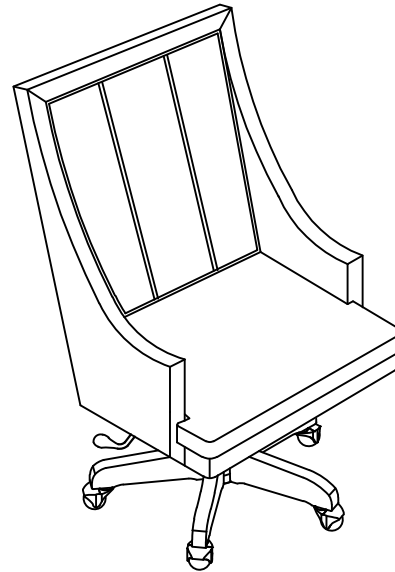
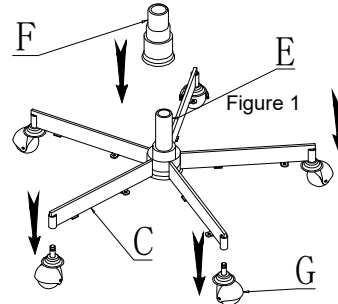

Figure 4
Figure 3
Step 3. Place Caster(G) on Metal Base(C) and secure them as Figure 3
Step 4. Place Wood Cap(D) to Metal Base(C).
Step 5. Rest the Wood Cap(D) on top of each leg of the Metal Base (C) with Screws(L) by Screwdriver as Figure 4 shown.